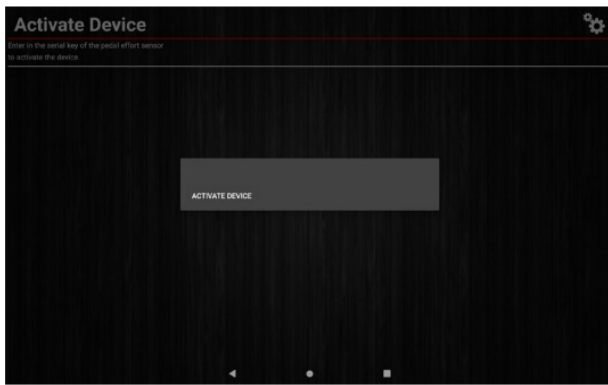

Figure 48
4. Click Activate Device. (Figure 48)